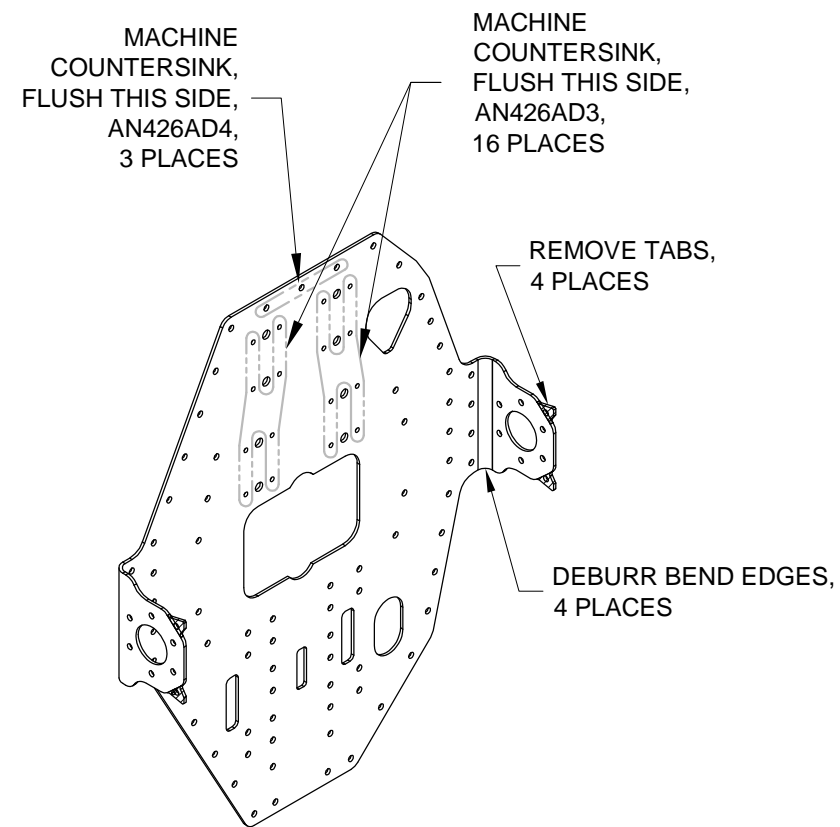

FIGURE 2:
Step 2: Remove the tabs from the F-1211B Bulkhead Doubler and deburr the bends called out in Figure 2.
Step 3: Machine countersink the holes in the F-1211B Bulkhead Doubler called out in Figure 2.